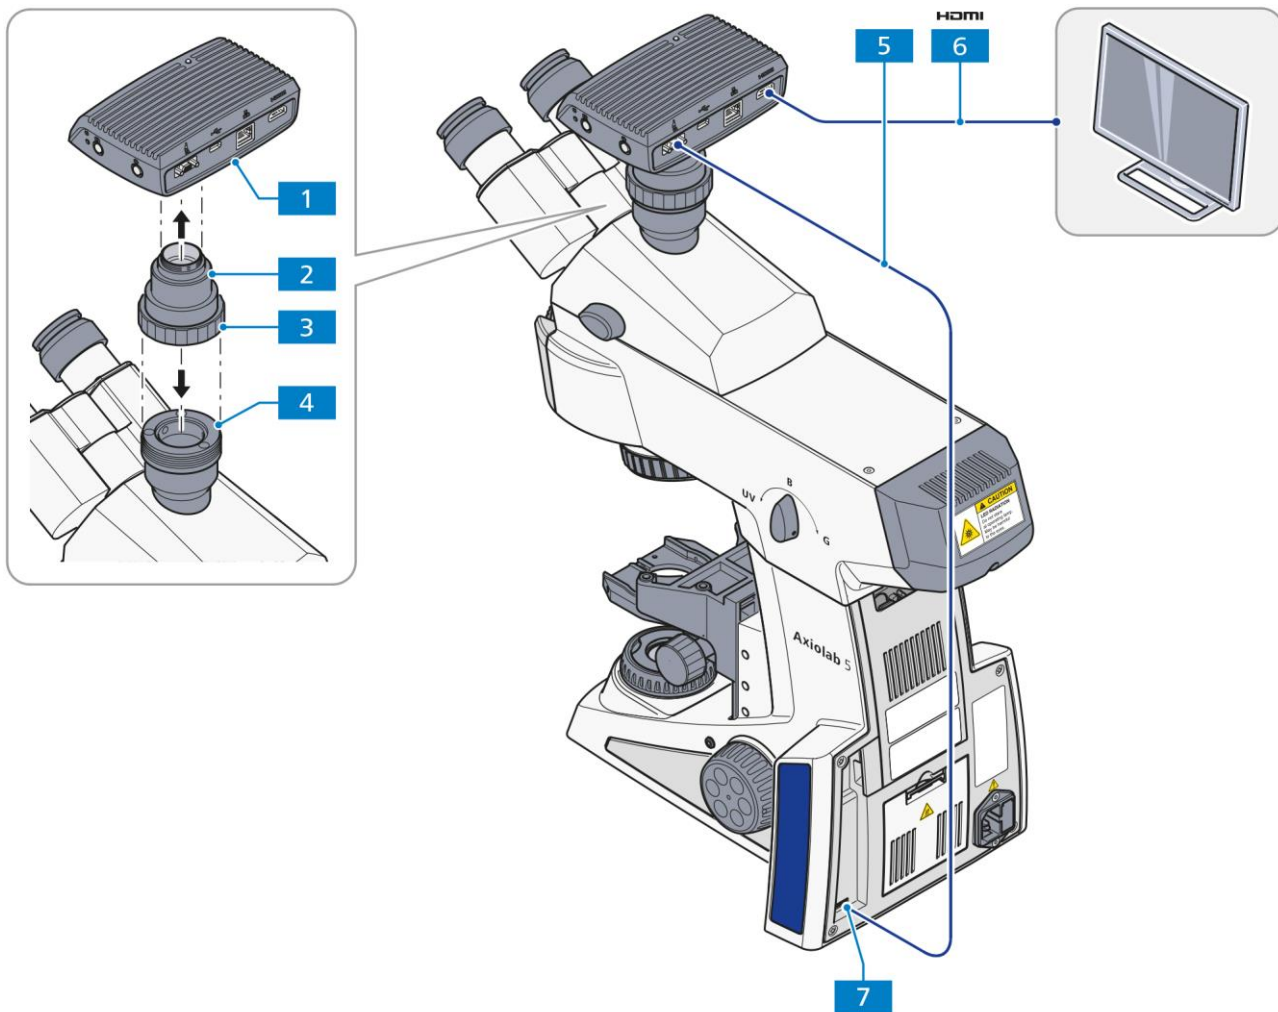

Fig. 3-27 Mounting the Axiocam 202 mono or Axiocam 208 color
- Mount the C-mount camera adapter (Fig. 3-27/2) on the Axiocam (Fig. 3-27/1).
- Attach the Axiocam with the adapter to the camera port (Fig. 3-27/4) of the tube.
- Orient the camera to the stand and fix it in position by tightening the ring nut (Fig. 3-27/3).
- Connect the camera to the stand (Fig. 3-27/7) via the USB (Commercial Micro-D) cable (Fig. 3-27/5).
- Connect the camera to an external monitor via an HDMI cable (Fig. 3-27/6).